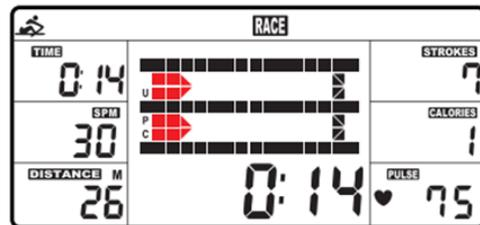

Fig. 6
- C. Press START button to start and STOP will disappear. USER and PC will be displayed in the center window (Fig.6). The computer will stop when either the user or the computer has reached the race distance that was set. Then the matrix displays "PC WIN" or "USER WIN" (Fig.7).